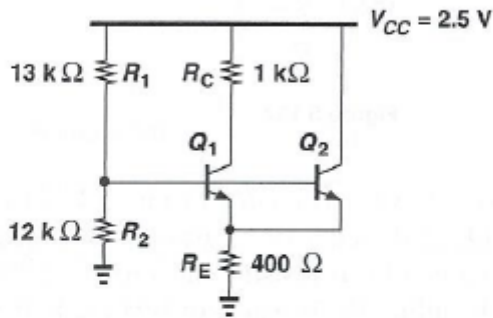

Figure 5.118
- \*5.19. Consider the circuit shown in Fig. 5.118, where  $I_{S1} = 2I_{S2} = 5 \times 10^{-16}$  A,  $\beta_1 = \beta_2 = 100$ , and  $V_A = \infty$ .